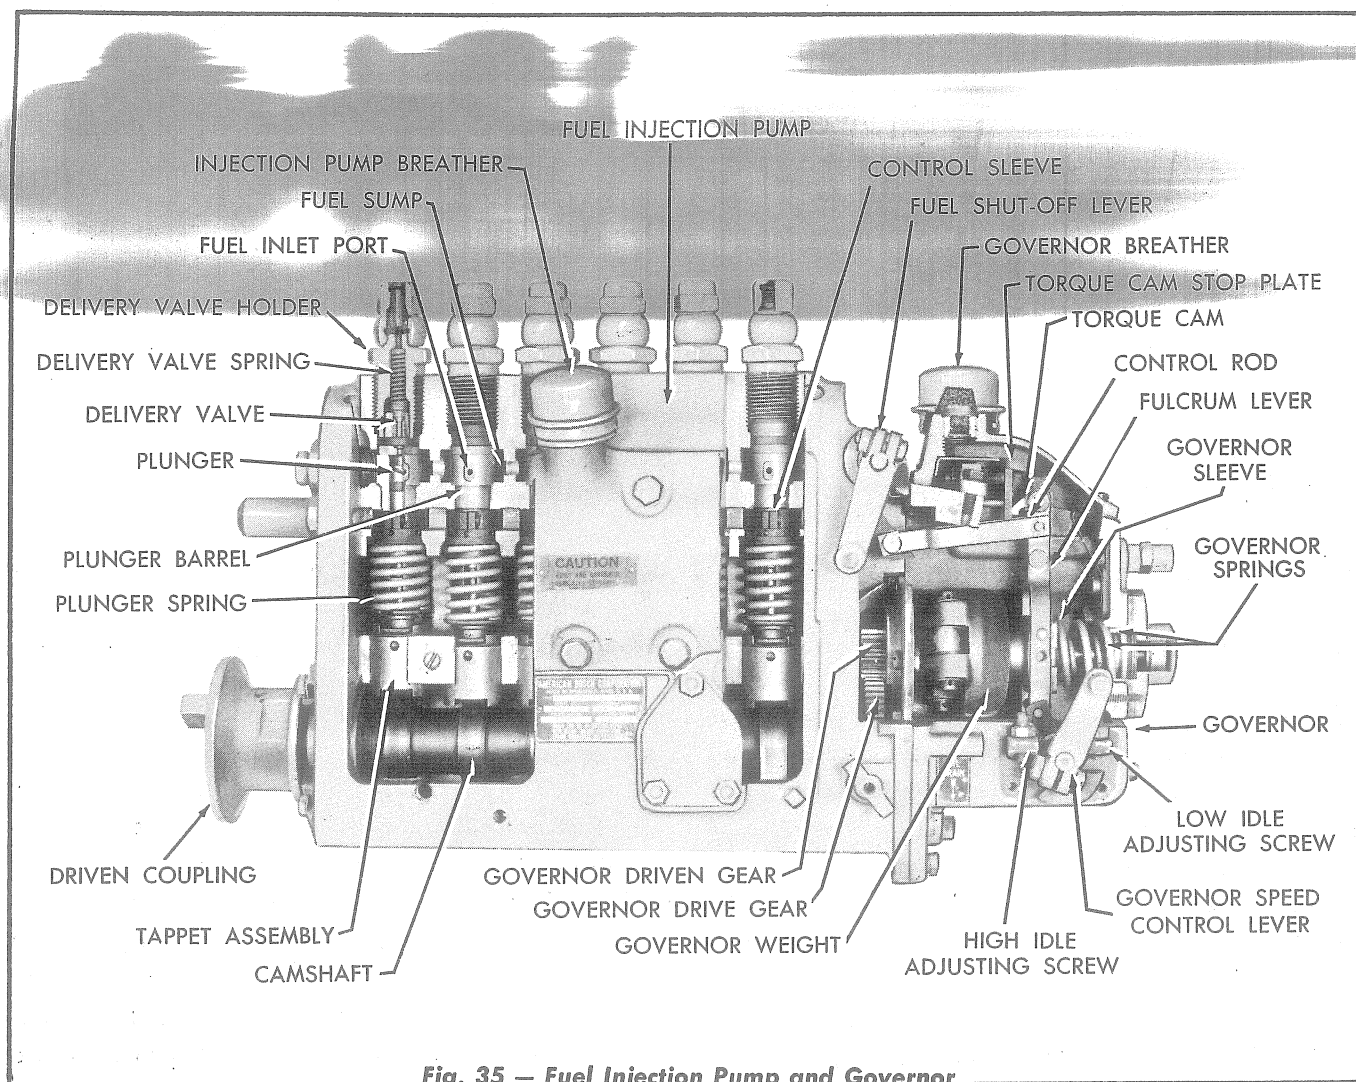

Fig. 35 — Fuel Injection Pump and Governor Assembly — Sectional View (Early Model Pump Shown — Later Models Similar)
- s. Remove the breathers (Fig. 35) from the fuel injection pump and governor. Fill the oil sump of the injection pump with 1 quart of new engine crankcase lubricant and install the breather. Fill the governor with $\frac{1}{4}$ pint of new engine crankcase lubricant and install the breather.